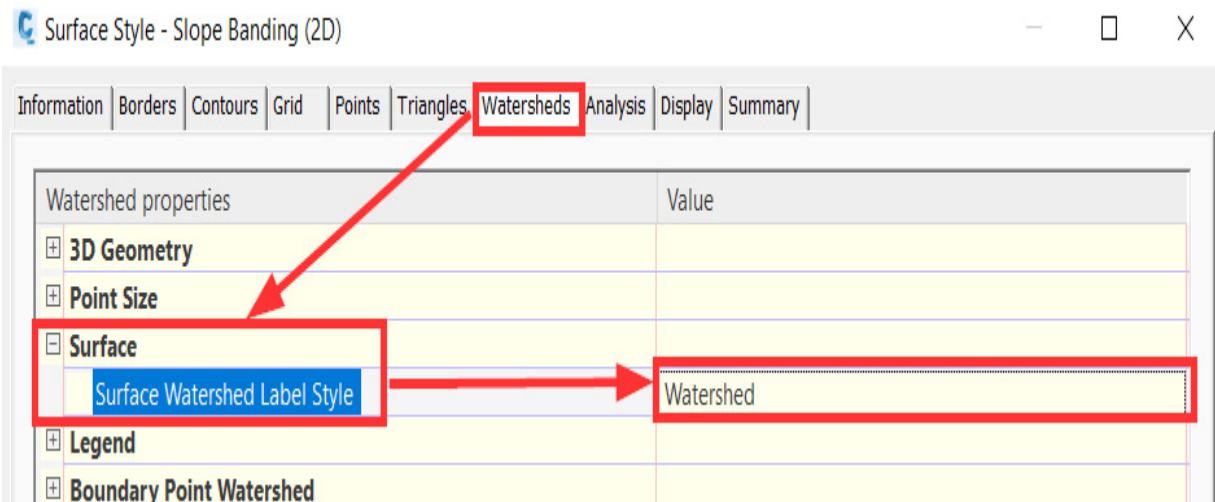

Figure 6.13 – Workflow for adding surface labels
**Surface Display Style** showing the watersheds is displayed as well, where the label styles displayed in model space are initially identified by the default settings applied in **Surface Style | Watersheds | Surface | Surface Watershed Label Style** (refer to *Figure 6.13*).